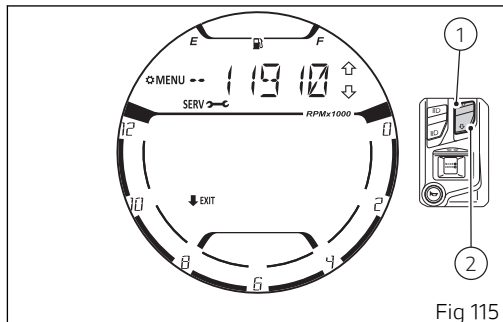
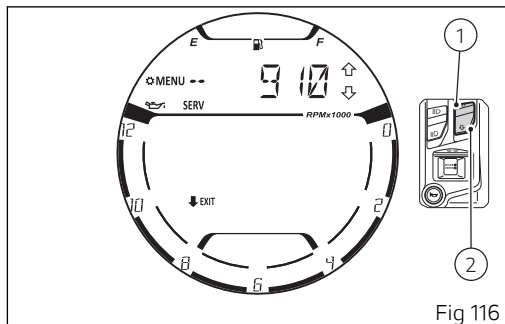
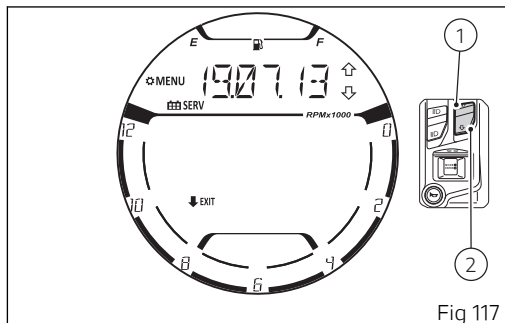

Fig 115
Fig 116
Fig 117
Upon entering the function, the display shows as first information the "Desmo service" indication (Fig 115).
Upon pressing button (1) or button (2) the instrument panel displays in sequence "Oil Service" (Fig 116), "Annual Service" (Fig 117) and then "Desmo Service" again (Fig 115).